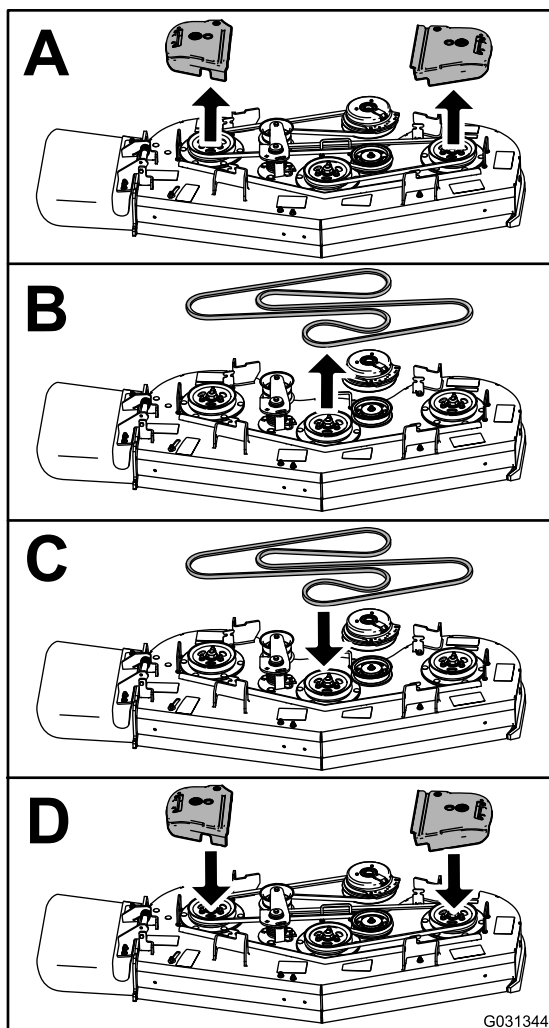

Figure 70
3. Replace the belt as shown in Figure 70.